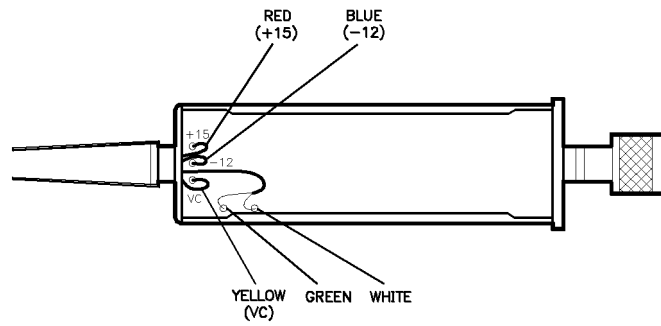

Figure 7-2. Cable Connections
10. Solder the new cable wires to the PC assembly. (Refer to Figure 7-2.)